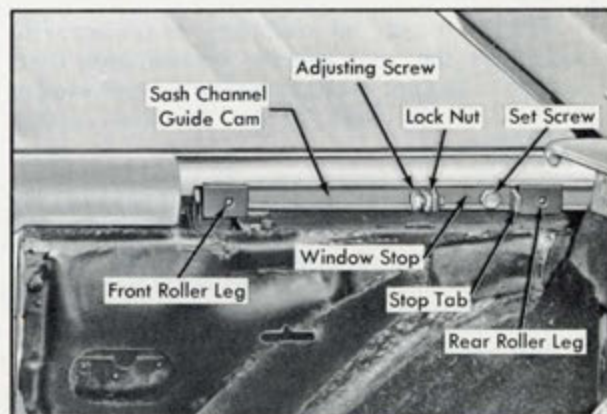

Fig. 7 Rear Quarter Window Travel Adjustment
5. Loosen window stop set screw in window channel guide cam, Fig. 7.
The adjustable window stop in the lower sash channel guide cam, Fig. 7, limits fore and aft travel of the rear quarter window. To adjust window stop, proceed as follows:
3. Position the rear quarter window stop in lower sash channel guide cam so that its rear tab rests against the rear roller leg of the sash channel when window is closed, Fig. 7, and in alignment with door window. Then, retighten window stop set screw and check operation of window.